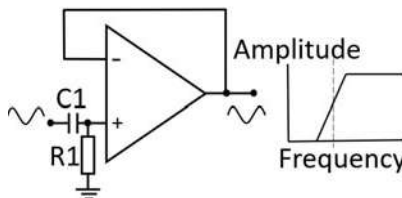

Figure 9. The general high-pass filter circuit.
8. The *high-pass filter* circuit in Figure 9 is a unity gain amplifier passing the frequencies higher than that determined by the values of R1 and C1. This design frequency is known as "the break point" or cutoff frequency.